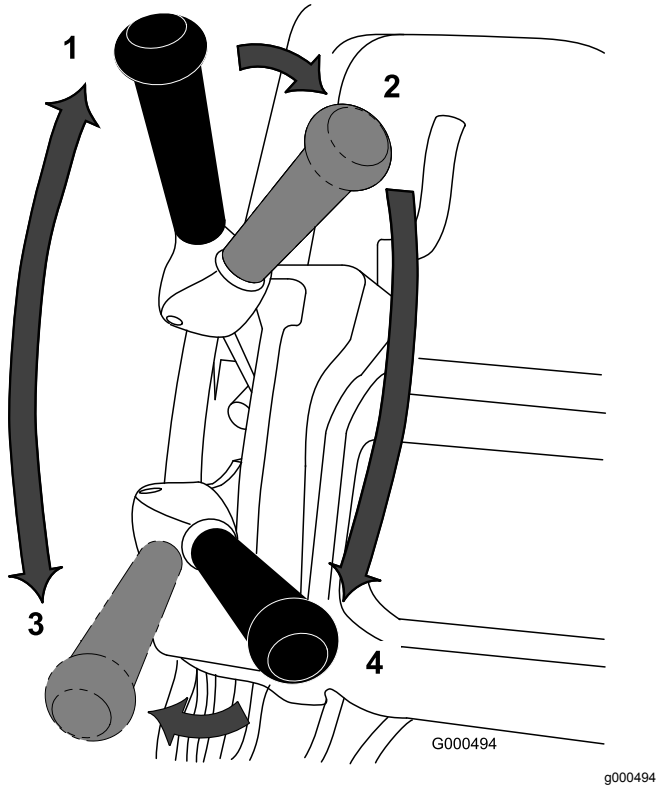

Figure 33
to raise the cutting unit, press the operator presence control, move the traction lever to the Engaged position (Figure 33), and gradually increase the speed control setting to transport the mower onto the collar of the green .
3. Disengage the traction lever, then move it to the left and forward, engaging the traction and reel drive (Figure 33).